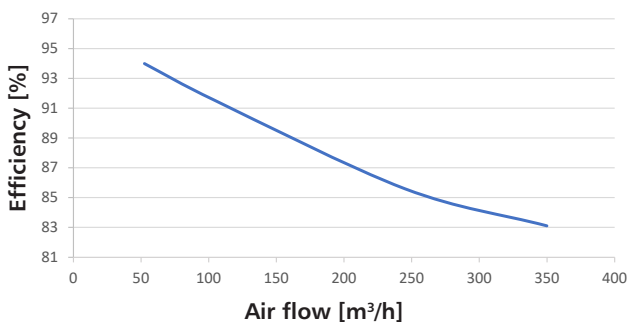

Fig. 10 - Heat recovery efficiency HRU-SlimAIR-350
[Fig. 10]
- Heat recovery unit (with all components from fig. 10) - 1 pcs